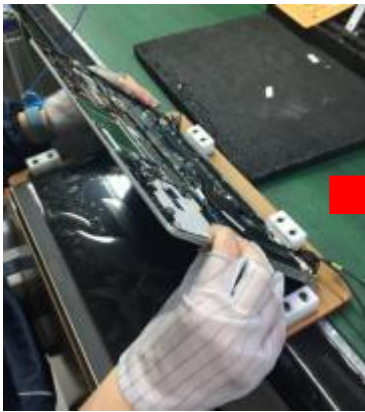

Fig.3
2. Open base unit to 90 degree, then separate panel set & base unit(Fig.3).